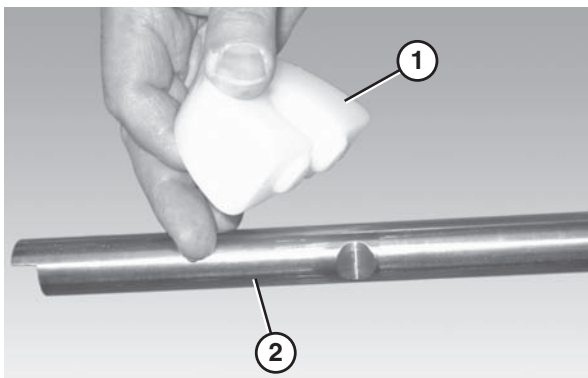

Figure 23
1. Attach the chain return shoes (Figure 23, item 1) to the return shaft (Figure 23, item 2).